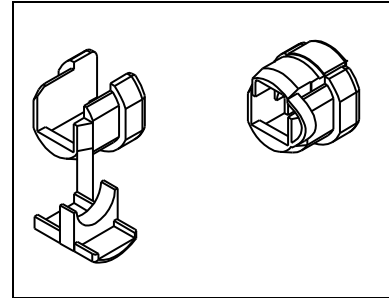
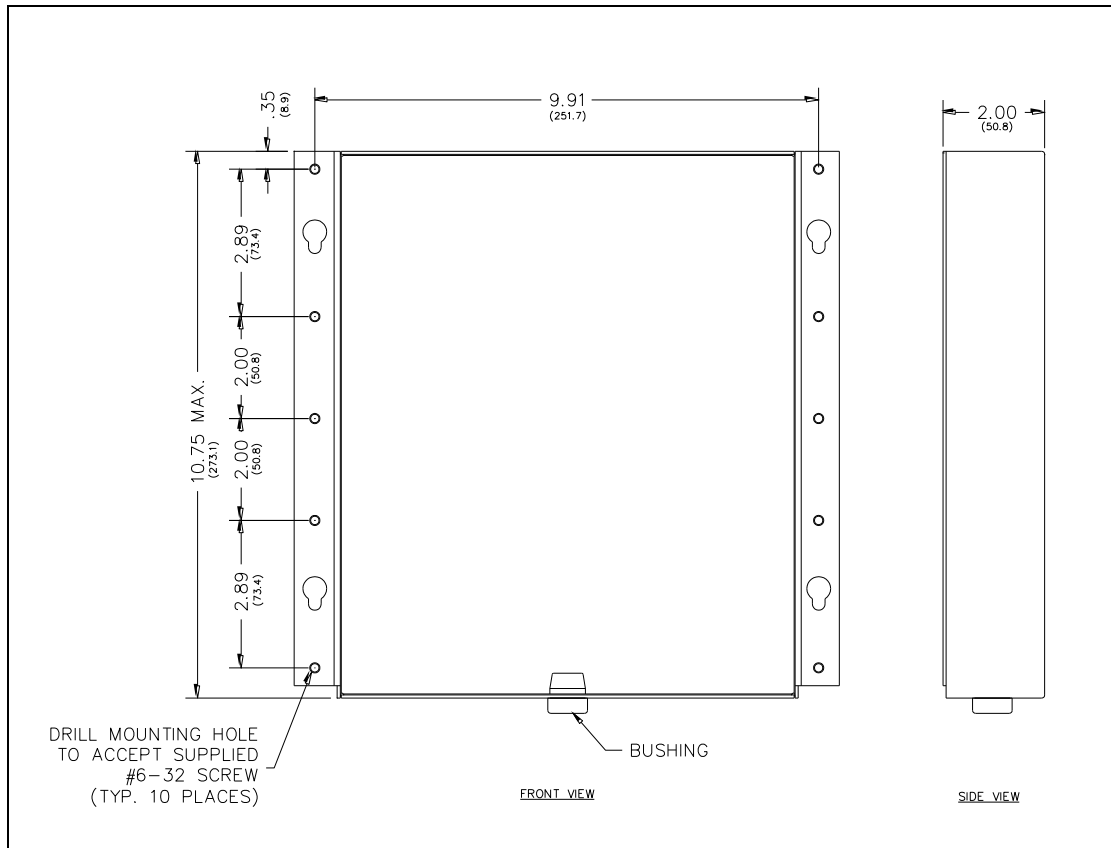
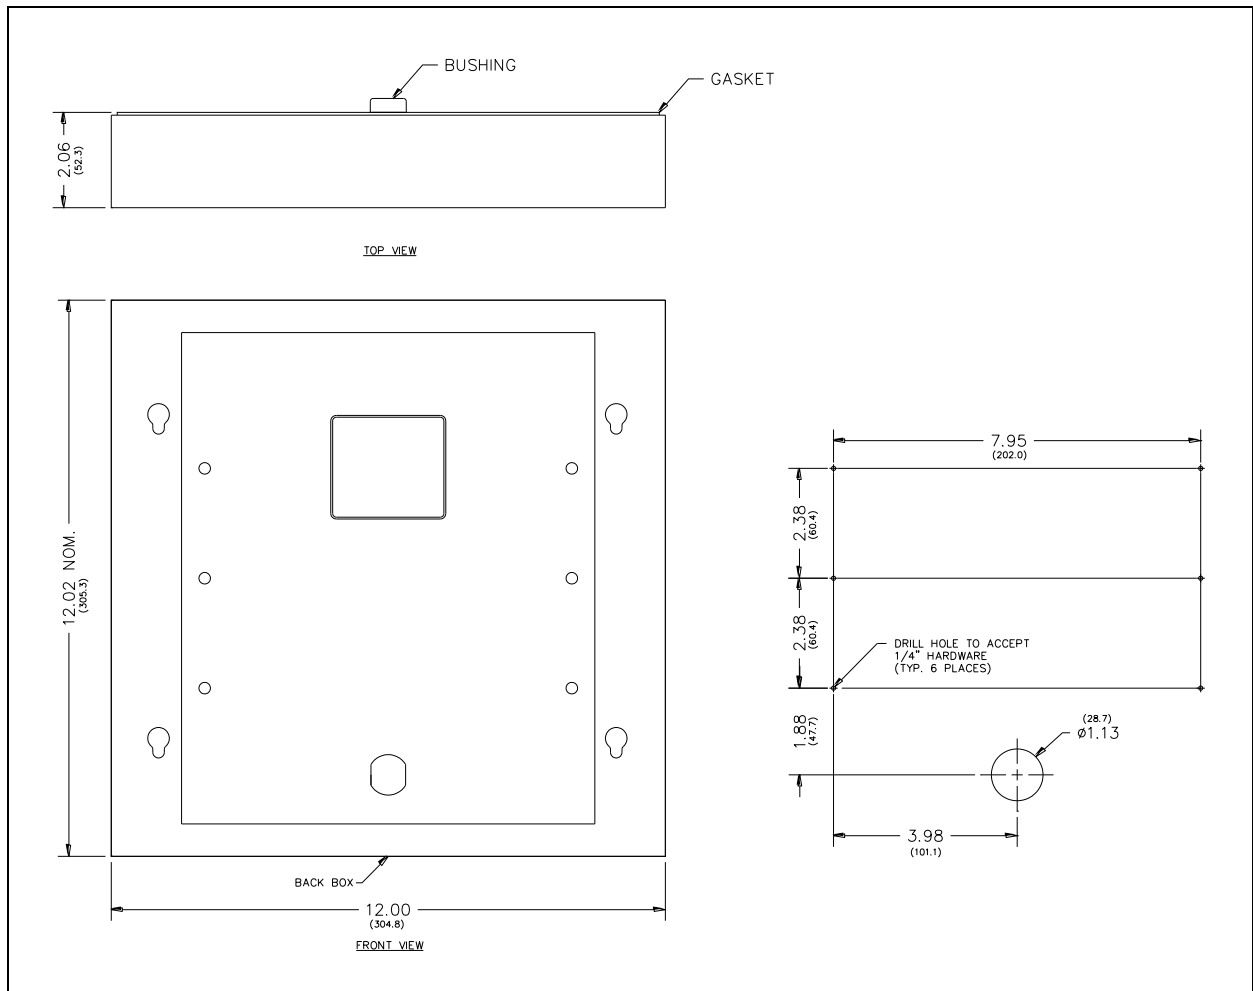

Figure 3. Bushing
Figure 6. Mounting bracket for Model 116-02-0418-00W
Figure 8. Mounting the Model 116-02-0418-01W
3. If using Power-over-Ethernet, without any optional inputs or outputs, place the bushing around the Ethernet cable so that it is located approximately 120mm from the end of the cable. Snap the bushing closed and insert into the double “D” hole in the bottom of the back bracket. See Figure 3 and Figure 6.
4. If using local power or optional inputs or outputs, route the cables through the “D” hole in the bottom of the back bracket. See Figure 6.
5. Place the back bracket in the wall. Locate the mounting holes you intend to use and mark them for drilling. Refer to Figure 6. Do not use the bracket as a template for drilling.
2. If using Power-over-Ethernet, without any optional inputs or outputs, place the bushing around the Ethernet cable so that it is located approximately 120mm from the end of the cable. Snap the bushing closed and insert into the double “D” hole in the back box. See Figure 3 and Figure 8.
3. If using local power or optional inputs or outputs, route the cables through the “D” hole in the bottom of the back box. See Figure 3 and Figure 8.